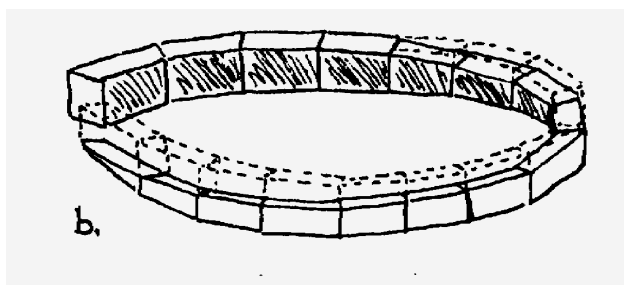

Figure 11-12
- Cut a spiral from ground level of the first block until the last 4 or 5 blocks are full size as shown in figure 11-12.